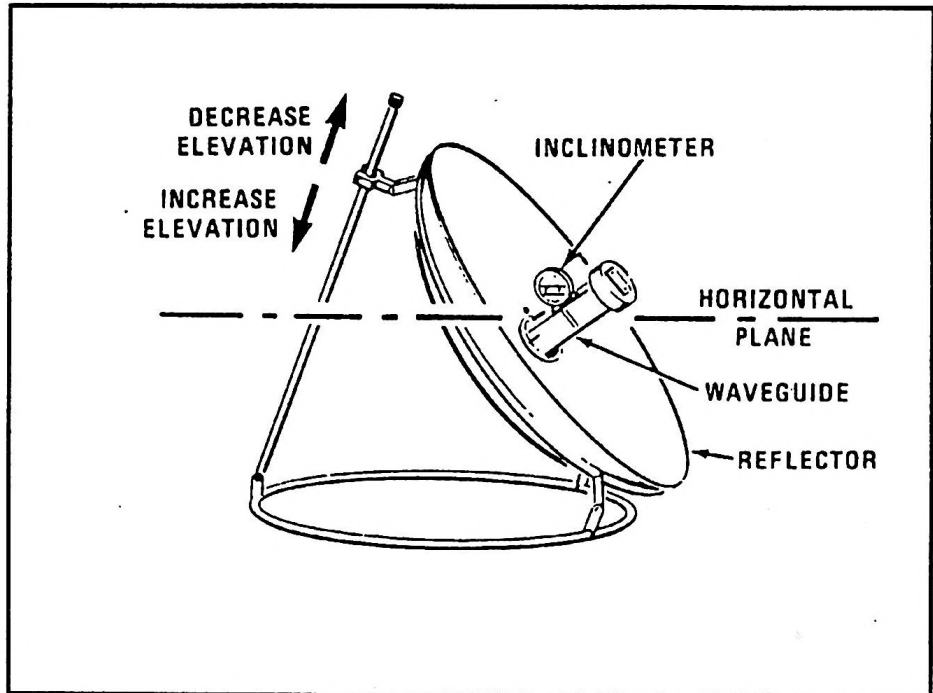

Figure 4-12. Elevation Angle Adjustment
3. Adjust elevation angle, as follows (Figure 4-12):